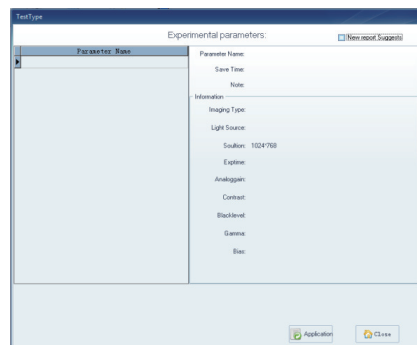

Fig 5-12
5.5.2 Calling the parameters: The user needs to call the experimental setting parameters before, click the < call > button under < parameter >, and the save window pops up (see figure 5-12).